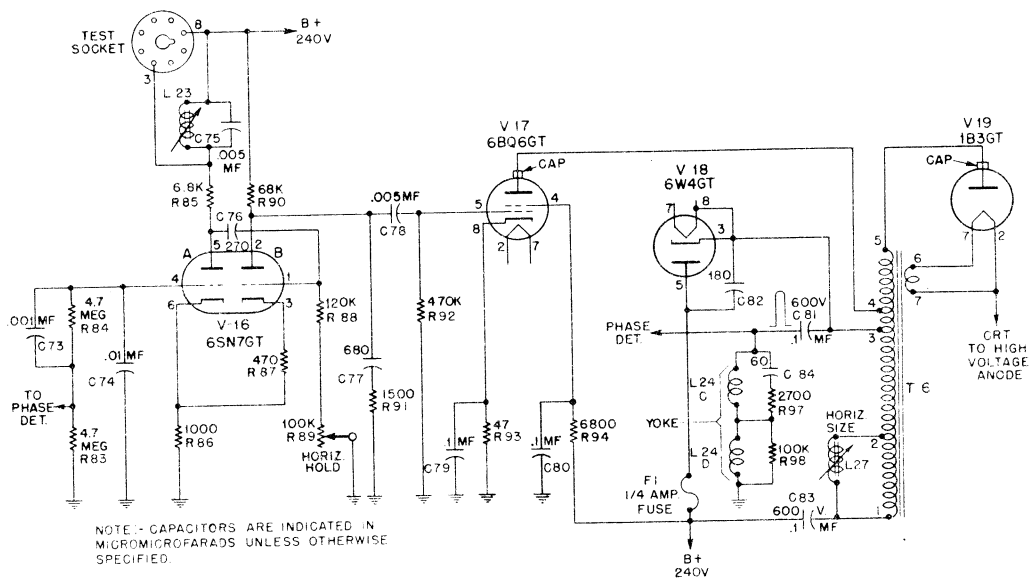
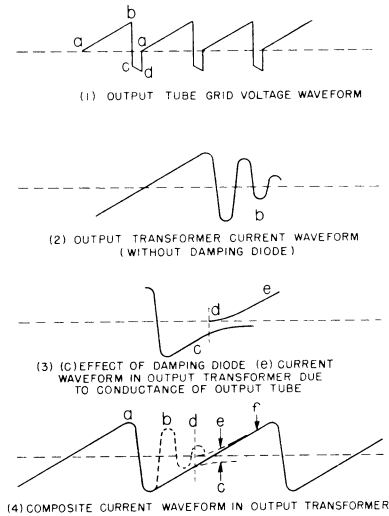

FIGURE 20. SIMPLIFIED SCHEMATIC OF HORIZONTAL SCANNING AND HIGH VOLTAGE SYSTEM
FIGURE 22. WAVEFORMS IN HORIZONTAL SCANNING SYSTEM
The voltage developed at the plate of V-13B will be the combination sawtooth and pulse voltage shown in Figure 22(1). The pulse is formed by the peaking resistors R-65 and R-66. When V-13B goes into conduction, the voltage at the plate of V-13B drops suddenly to a value determined by the relationship of the plate resistance of V-13B to the total resistance in the discharge circuit of C-66, which consists of R-65, R-66, and the plate resistance of V-13B. After this initial instant, the charge on C-66 decreases, causing the voltage decrease at the plate shown between points "c" and "d" of Figure 22(1). When the positive pulse on the grid of V-13B has decreased to the value where the negative charge on C-63 becomes operative and cuts off V-13B, the voltage on the plate of V-13B and, correspondingly, on the grid of V-14, rises quickly to point "a" on the curve, the start of the trace.
The negative pulse shown between point "b" and "a" of Figure 22(1), acting on the grid of the vertical output tube V-14, tends to cut the tube off and raises its plate resistance to the larger value required to dissipate the energy in the plate circuit inductance during the short retrace period.
The horizontal scanning system comprises a phase detector V-15 (6AL5), a cathode coupled multivibrator V-16 (6SN7), the output tube V-17 (6BQ6) and a damping diode V-18 (6W4). Figure 20 is a simplified schematic of this system.
C-77 and R-91, the peaking resistor, will produce the same combination pulse and sawtooth voltage shown in Figure 22(1). This action was explained in the vertical circuit.
The foregoing explanation is based on the assumption that tube "A's" grid is returned to a fixed potential point. It can be seen that if this grid is returned to a point which varies in potential with frequency of the multivibrator, it would be possible to make this variation a means of frequency control. Assume that the grid of "A" in Figure 20 is made more positive. This causes the bias of "B" to increase because of the increased drop across the common cathode resistor R-86. Capacitor C-76 will then discharge for a longer time before "B" conducts, thereby decreasing the frequency of oscillation. If the grid were made more negative, the bias across the common cathode resistor would be less and C-76 would discharge for less time before "B" started to conduct, thereby increasing the frequency.
The combination sawtooth and pulse waveform developed across C-77 (680) and R-91 (1500) by the multivibrator circuit, is fed to the grid of the horizontal output tube V-17 (6BQ6). Figure 20 is a simplified schematic of the horizontal output system. It will be noted that in this system an auto-transformer is used. In the horizontal scan it is necessary that retrace be completed in about 7 microseconds. In order to accomplish reversal of current in this short a time, it is necessary to make this circuit resonant at such a frequency that the half cycle time will equal 7 microseconds, because only by shock exciting such a circuit into oscillation will retrace be accomplished in the time allowed. The circuit is made resonant by the inductance of the output transformer and yoke, the distributed capacity and the tube capacity. Bearing this in mind, the operation can be explained as follows. Referring to Figure 22(1), assume that the voltage on the grid of the output tube is increasing, point "a". The grid is now being made less negative and the output tube starts to draw current which is supplied from B plus thru the damping diode. When point "b" is reached on the grid voltage waveform, the output tube is suddenly cut off because its grid has been made highly negative (point "c" on the grid voltage waveform). With the tube cut off, the resonant plate load is undamped and the circuit is shocked into oscillation. The reversal of current through the output inductance produces a positive voltage pulse which makes the cathode of the damping diode (V-18) positive, with respect to its plate; therefore, it cannot conduct. C-82 (180) is placed across the diode to provide a low impedance for the oscillatory current. If the damping diode V-18 were not present, this oscillation would continue and current would flow in the output transformer as shown in Figure 22(2). In order to insure a linear trace, however, this oscillation must be stopped and the damping diode serves this purpose. When the current nears its maximum negative value, the polarity and amplitude of the voltage pulse on the damping diode is such that its plate becomes positive, with respect to its cathode, so that the tube conducts heavily and loads the circuit sufficiently to prevent continuation of the oscillation. The current then follows the decay curve shown at "c" in Figure 22(3). At the time ["d" in Figure 22(3)] the voltage at the grid of the output tube has become less than cut off [point "a" in Figure 22(1)] and the tube again demands current. The rising current in the tube results in superimposing the waveform "e" of Figure 22(3) on the current flow already in the
output transformer due to the decaying current which resulted from the damped oscillation. Combination of these two currents results in the linear trace current indicated at "f" in Figure 22(4), which is a composite waveform of the entire action. During the peak conduction of the damping diode, C-83 (.1) charges and its polarity is such that when the output tube calls for current, the charge on the condenser will be in series with the B plus supply so that the voltage at the output tube plate is raised from the 250 volt B plus supply to about 475 volts by this so-called "bootstrap" voltage. When the grid voltage waveform of the output tube again reaches point "b" of Figure 22(1), the tube is cut off and another cycle starts.